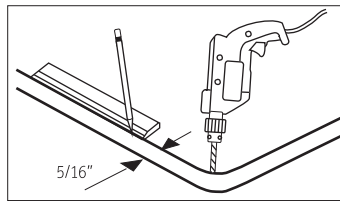

Figure 2
5. Remove sink from counter top and draw cutout line  $5/16''$  inside the original rim outside line with  $1-1/2''$  radius at corners. Drill hole at the inside corner of the cutout line. (Figure 2)